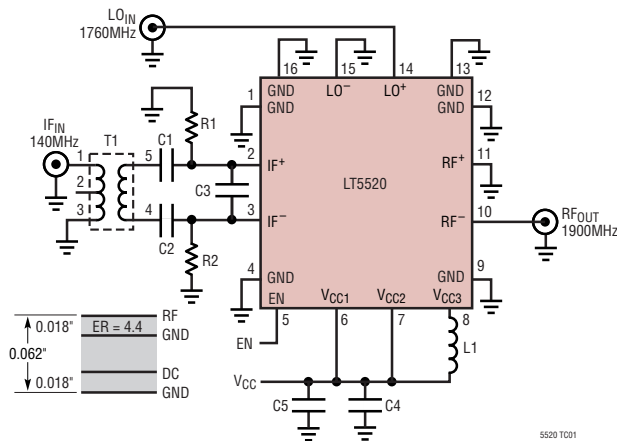

Figure 2. Test Schematic for the LT5520
**1900MHz Application:**  $V_{CC} = 5V_{DC}$ , EN = High,  $T_A = 25^{\circ}\text{C}$ , IF input = 140MHz at −10dBm, LO input = 1.76GHz at −5dBm, RF output measured at 1900MHz, unless otherwise noted. Test circuit shown in Figure 2. (Notes 2, 3)
(Test Circuit Shown in Figure 2)  $V_{CC} = 5V_{DC}$ , EN = High,  $T_A = 25^{\circ}\text{C}$  (Note 3), unless otherwise noted.
(Test Circuit Shown in Figure 2)  $V_{CC} = 5V_{DC}$ , EN = High,  $T_A = 25^\circ\text{C}$  (Note 3), unless otherwise noted.
## TYPICAL PERFORMANCE CHARACTERISTICS (Test Circuit Shown in Figure 2)
$V_{CC} = 5V_{DC}$ , EN = High,  $T_A = 25^\circ\text{C}$ , IF input =  $140\text{MHz}$  at  $-10\text{dBm}$ , LO input =  $1.76\text{GHz}$  at  $-5\text{dBm}$ , RF output measured at  $1900\text{MHz}$ , unless otherwise noted. For 2-tone inputs: 2nd IF input =  $141\text{MHz}$  at  $-10\text{dBm}$ . (Test Circuit Shown in Figure 2.)
$V_{CC} = 5V_{DC}$ ,  $EN = High$ ,  $T_A = 25^{\circ}C$ , IF input = 140MHz at -10dBm, LO input = 1.76GHz at -5dBm, RF output measured at 1900MHz, unless otherwise noted. For 2-tone inputs: 2nd IF Input = 141MHz at -10dBm. (Test Circuit Shown in Figure 2.)